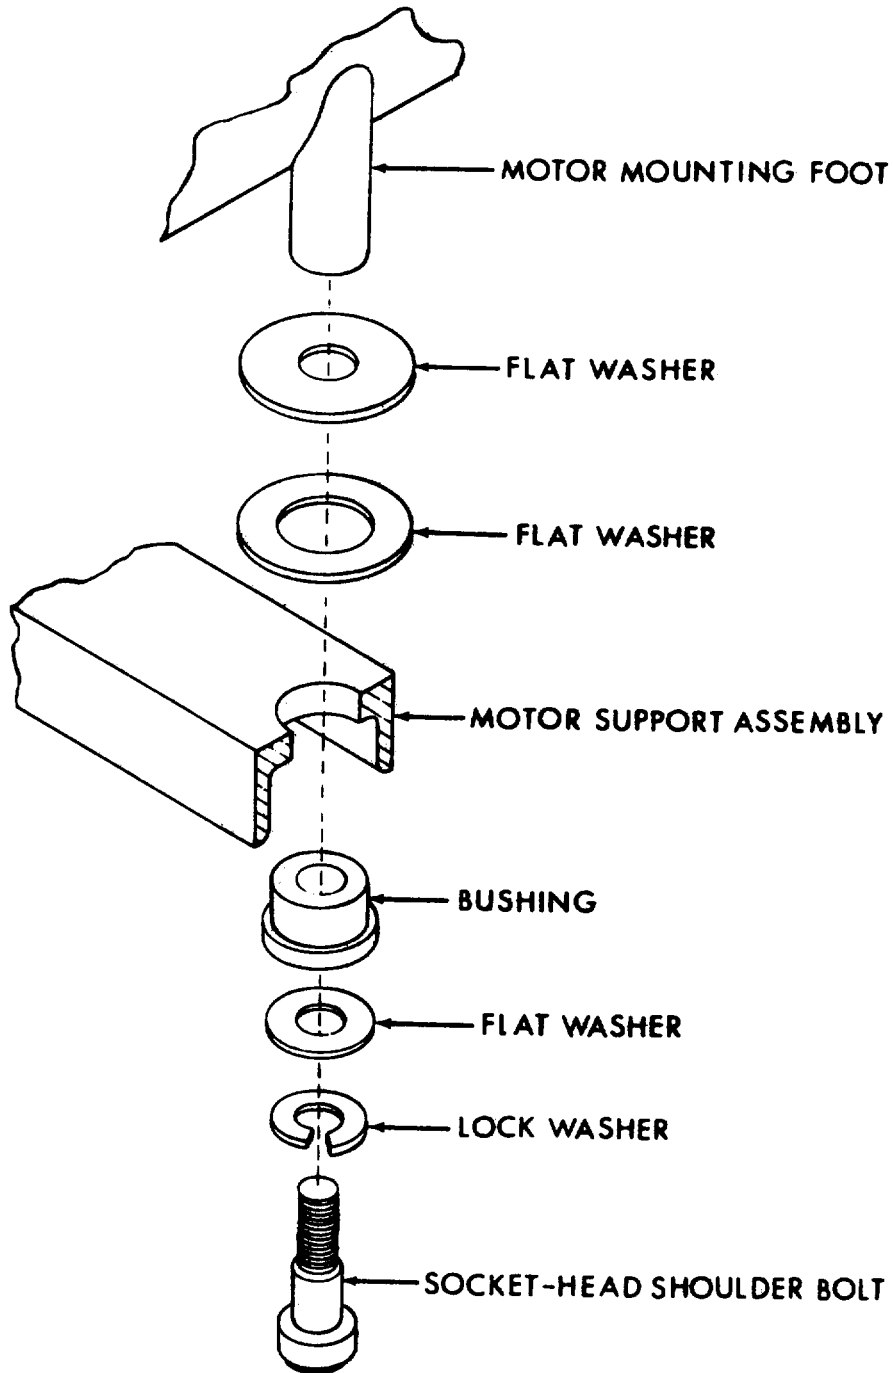

Figure 4-7. Motor Mounting Details
(1) Wire or tie the assembly in its appropriate position on the back of the air conditioner, so that the panel hangs from its top to permit it to swing outward far enough to allow room to work inside.
(2) Position the pressure cutout switch housing against the inside of the panel, and secure with two screws in each end.
(3) Place the spacer over the window side of the sight-glass liquid indicator, and the mounting bracket over the back of the indicator. Work the hole in the panel into position over the sight-glass, and thread two screws and lockwashers into the bracket, finger tight.
(4) Install the power supply receptacle in the hole in the lower right-hand corner of the back panel. Secure with four screws, lockwashers and nuts.
(5) Install the ferrule of the circuit breaker reset cable assembly through the hole in the lower left-hand corner of the back panel. Secure with a lock-washer and panel mounting nut. Grip shaft in a copper strip held in pliers, and screw on knob firmly.
(6) Align holes in back panel with holes in sides of casing, using at least two drift pins or the equivalent. Cut temporary attaching wire or cord, and secure panel to casing with 23 blind rivets.
(7) Tighten screws in sight-glass liquid indicator bracket and pressure cutout switch housing to final torque.
(8) Install four screws and washers in top rail of condenser coil guard.
(9) Position the fresh air screen on upright corner of back panel, and secure with five screws.
(10) Position the CBR cover on the upper left-hand corner of the back panel, and secure with five screws.
(11) Loosen four nuts attaching the fan motor flange to the partition if necessary to insert washer between mounting feet of motor and motor mount assembly. Assemble mounting hardware as shown in figure 4-7. Select proper thickness of resilient washer to fit. Tighten four nuts on motor flange when mounting is complete.